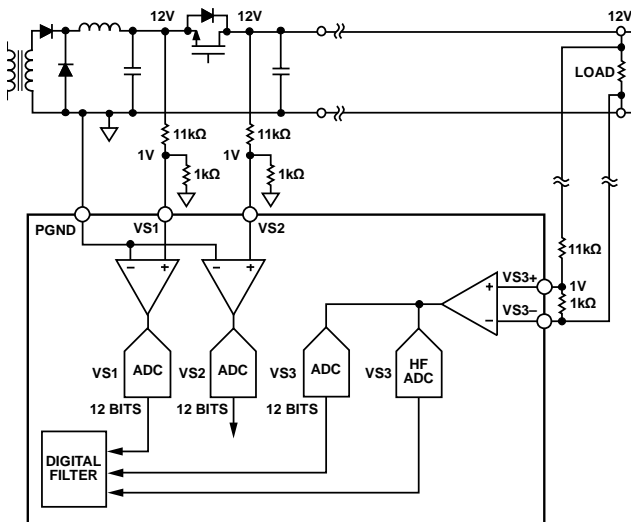

Figure 16. Voltage Sense Configuration
VS1 is used for the monitoring and protection of the power supply voltage at the output of the LC stage, upstream of the OrFET. The VS1 sense point on the power rail needs an external resistor divider to bring the nominal input voltage to 1 V at the VS1 pin (see Figure 16). The resistor divider is necessary because the VS1 ADC input range is 0 V to 1.6 V (12-bit reading). This divided-down signal is internally fed into a low speed Σ-Δ ADC. The output of the VS1 ADC goes to the digital filter and is also updated in Register 0x15 every 10 ms. The VS1 signal is referenced to PGND. When the OrFET is turned off, the power supply is regulated from the VS1 sense point instead of the VS3± sense point.
VS2 is used in conjunction with VS1 to control the OrFET gate drive turn-on. The VS2 sense point on the power rail needs an external resistor divider to bring the nominal common-mode signal to 1 V at the VS2 pin (see Figure 16).
VS3± is used for the monitoring and protection of the remote load voltage. VS3± is a fully differential input that is the main feedback sense point for the power supply control loop. The VS3± sense point on the power rail needs an external resistor divider to bring the nominal common-mode signal to 1 V at the VS3± pins (see Figure 16). The resistor divider is necessary because the VS3 ADC input range is 0 V to 1.6 V. This divided-down signal is internally fed into a high frequency (HF) ADC. The output of the VS3 ADC goes to the digital filter and is also updated in Register 0x17 every 10 ms. The HF ADC is also the high frequency feedback loop for the power supply.